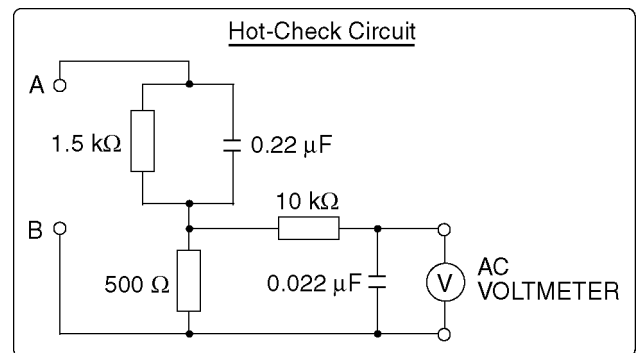

Figure 1
### 1.1.2. Leakage current hot check (See Figure 1)
2. Connect "A" to exposed metallic part on the set. And connect "B" to a good earth ground, as shown in Figure 1.